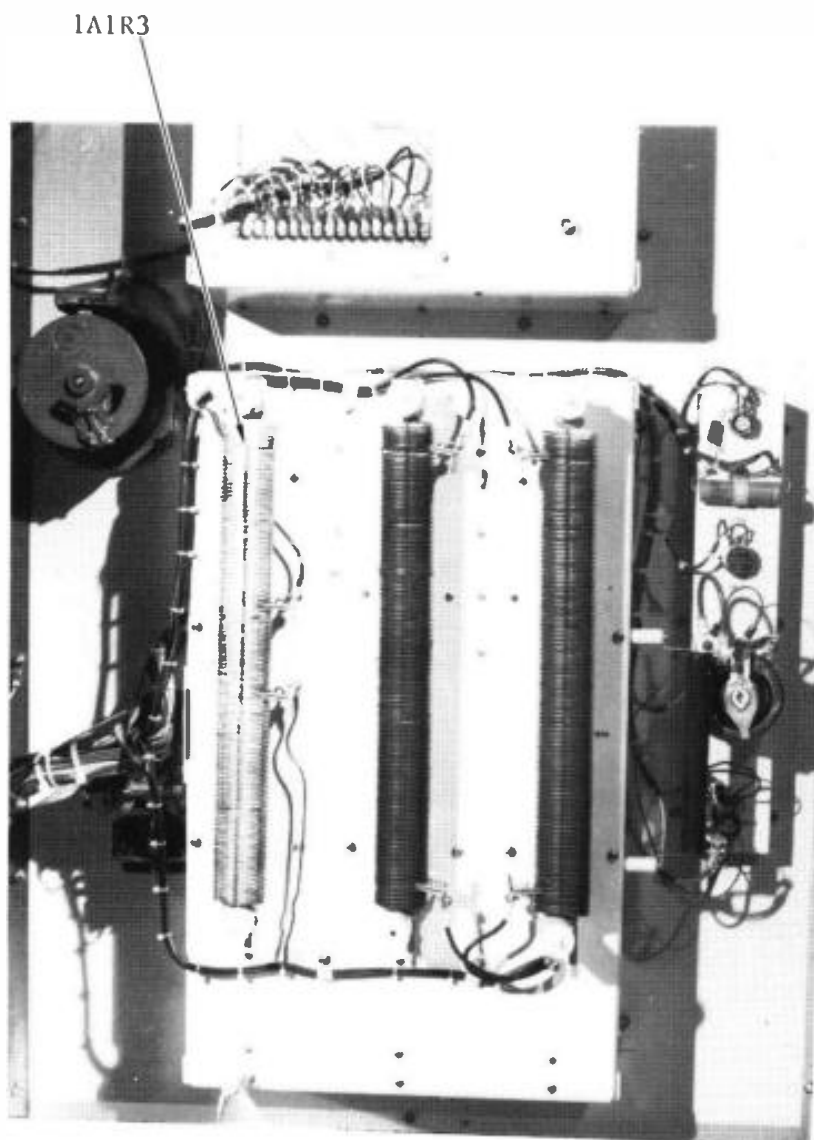

Figure 2-25. Low-Power Distortion Adjustment
- d. Distortion is generally a bit greater at low power but is minimized by changing the value of resistor 1A1R3 in Cabinet 1 (refer to figure 2-25). Maximum resistance is used for 10kW output power. Move the resistor tap 1/2-inch at a time until distortion is minimized.